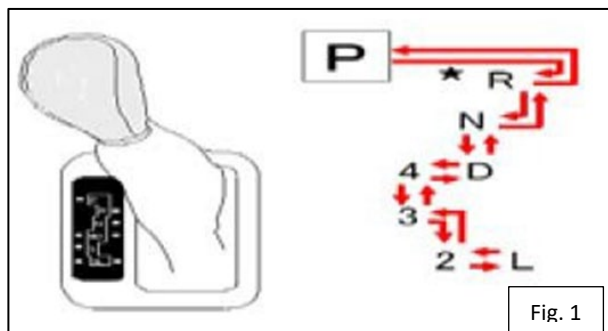

Fig. 1
2. Shift transmission in "P" (automatic) or reverse (manual). Figure 1.